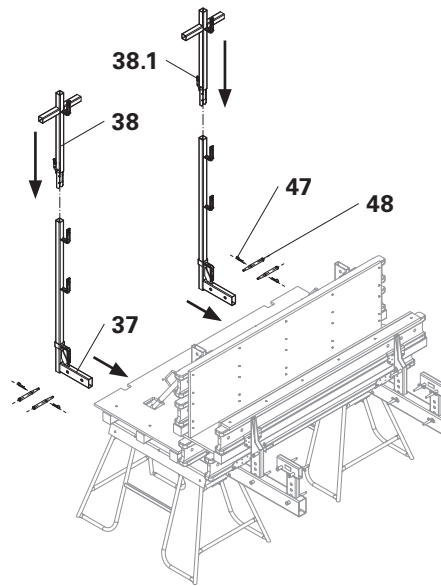

Fig. C1.06
1. Insert the Post Connector Edge Beam VD (37) in the Platform Beam (34).
2. Install Post Connector Edge Beam VD (37) with 2x Fitting Pin  $\varnothing$  21 x 120 (48) each and secure with Cotter Pin 4/1 (47).
3. Insert Post Extension VD (38) in the Post Connector Edge Beam VD (37) until the locking wedge (38.1) is automatically secured. (Fig. C1.06)